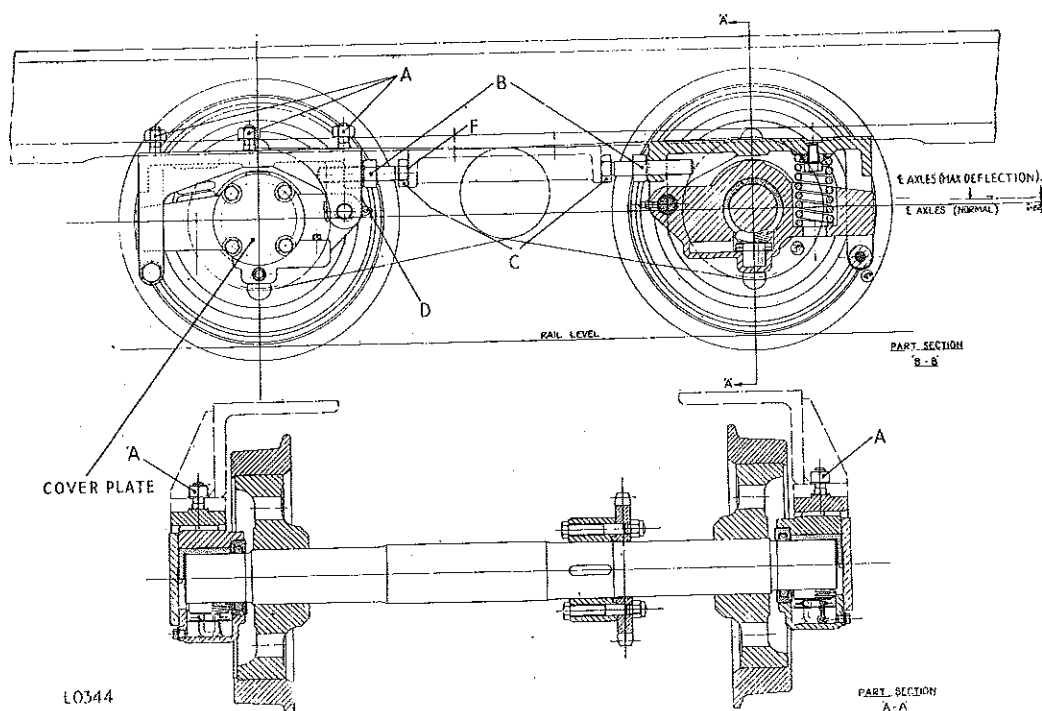

Fig. 36.
- (a) Loosen the nuts A (Fig. 36) securing the axle-boxes to the frame.